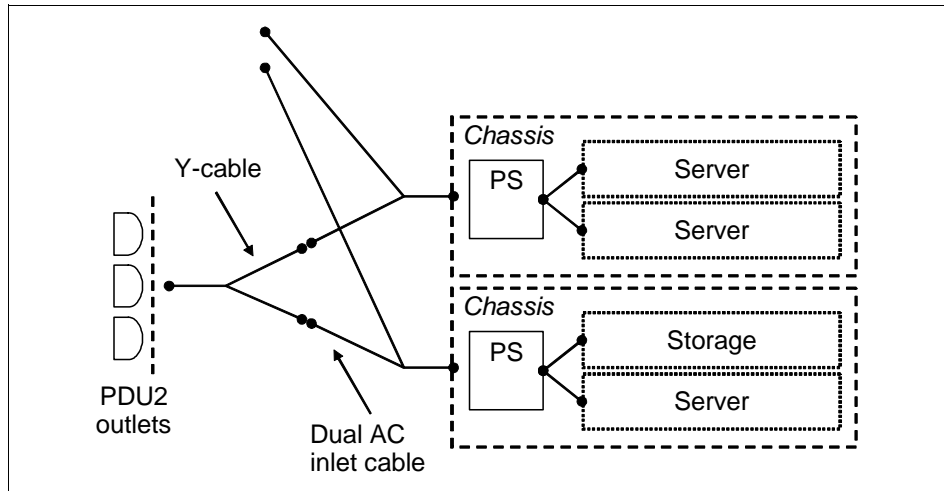

Figure 4-59 Using Y-cables to consolidate dual AC inlet cable receptacle
To reduce the number of required PDU outlets when using the 750 W dual AC power supply, it is possible to plug the dual AC inlet cable (FC 6293) into two separate Y-cables (FC 6568). See Figure 4-59 for this solution.
**Note:** Make sure that you do not exceed the maximum power drawing of a single PDU outlet in Figure 4-59.